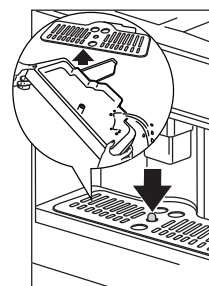

Fig. 35
**IMPORTANT!** If the drip tray is not emptied the water might overflow. This could damage the machine. The drip tray is fitted with a level indicator (red) showing the level of water it contains (Fig. 35). Before the indicator protrudes from the cup tray, the drip tray must be emptied and cleaned.